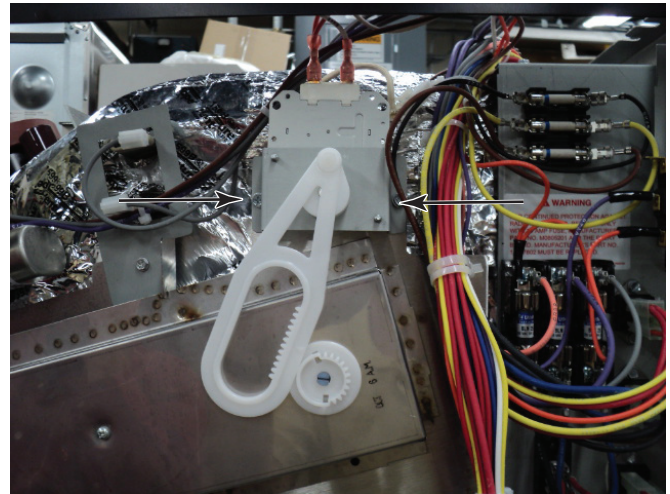
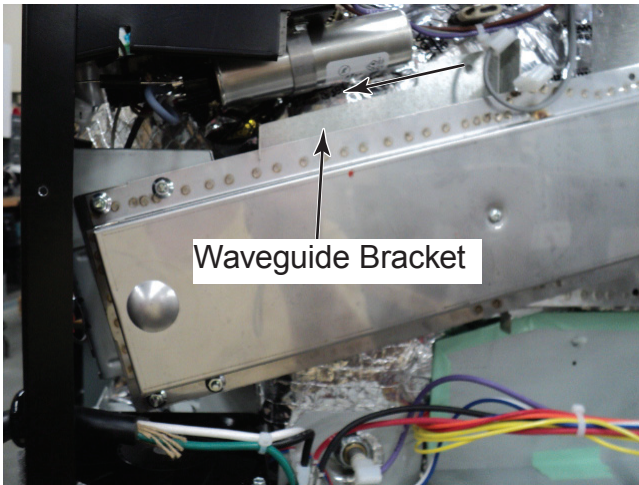

Figure 2
Figure 9
3. Remove two antenna motor mounting screws from bracket (Figure 9). Set antenna motor on top of oven (Figure 2).
10. Slide wave guide bracket down to the bottom of the wave guide (Figure 9).